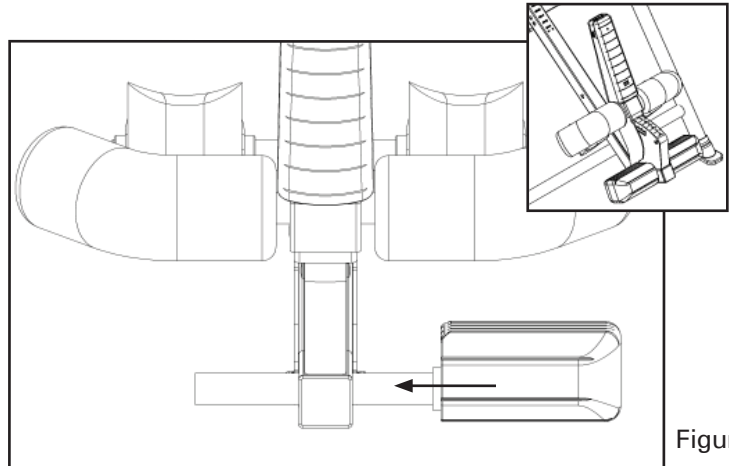

Figure 18
- Slide the Foot Bar (IA-1119) with one Foot Piece (IA-1118) in the hole below the ratchet (Figure 18).